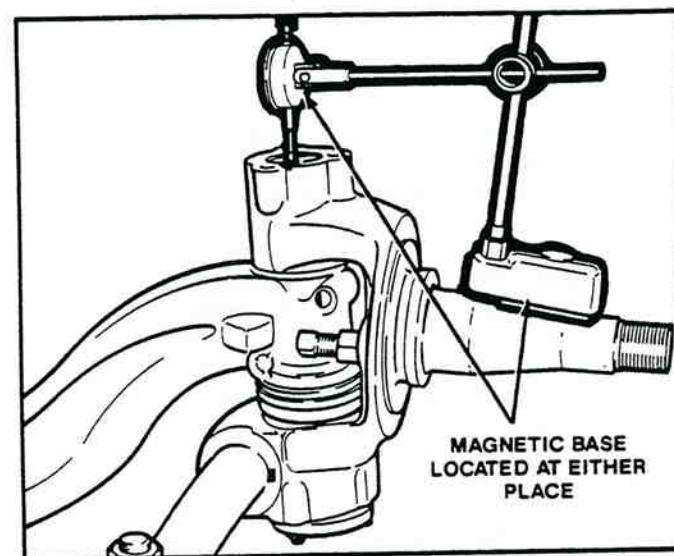

Figure 1-24. Dial Indicator Installation.
b. Attach the dial indicator with a "C" clamp or magnetic base to the knuckle spindle such that the knuckle can be turned freely as shown (figure 1-24).
c. Place the dial indicator plunger on the exposed end of the king pin so that its line of action is approximately parallel to the king pin center line (figure 1-24).